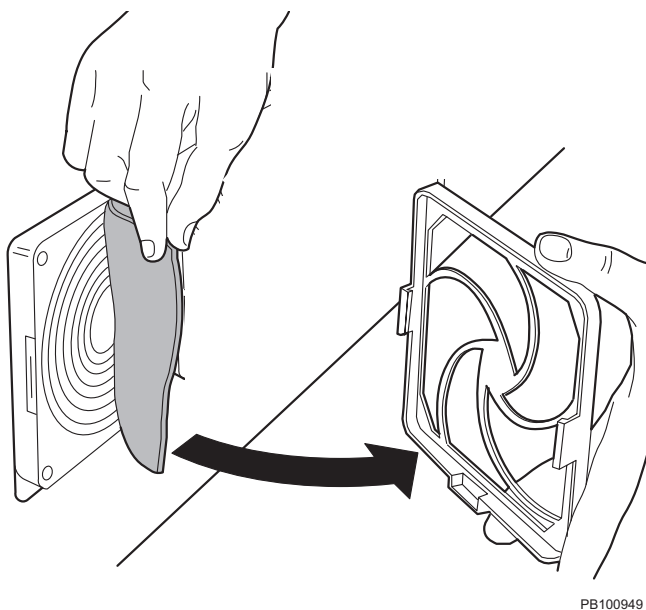

Figure 5-5 Removing the small fan filter cover and filter
1. For the two small fans on the upper rear panel, remove the small fan covers (hard plastic piece) and filters (Figure 5-5).